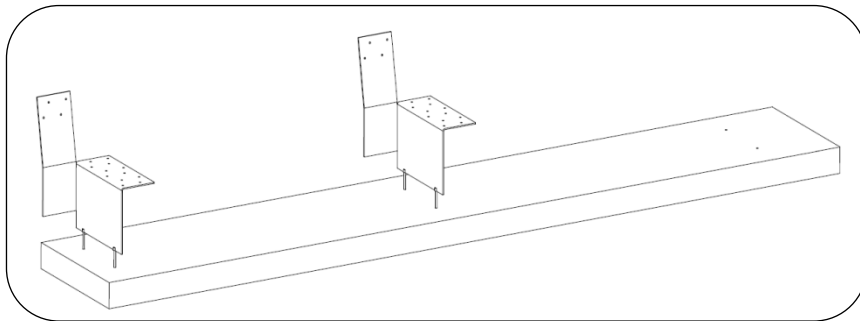
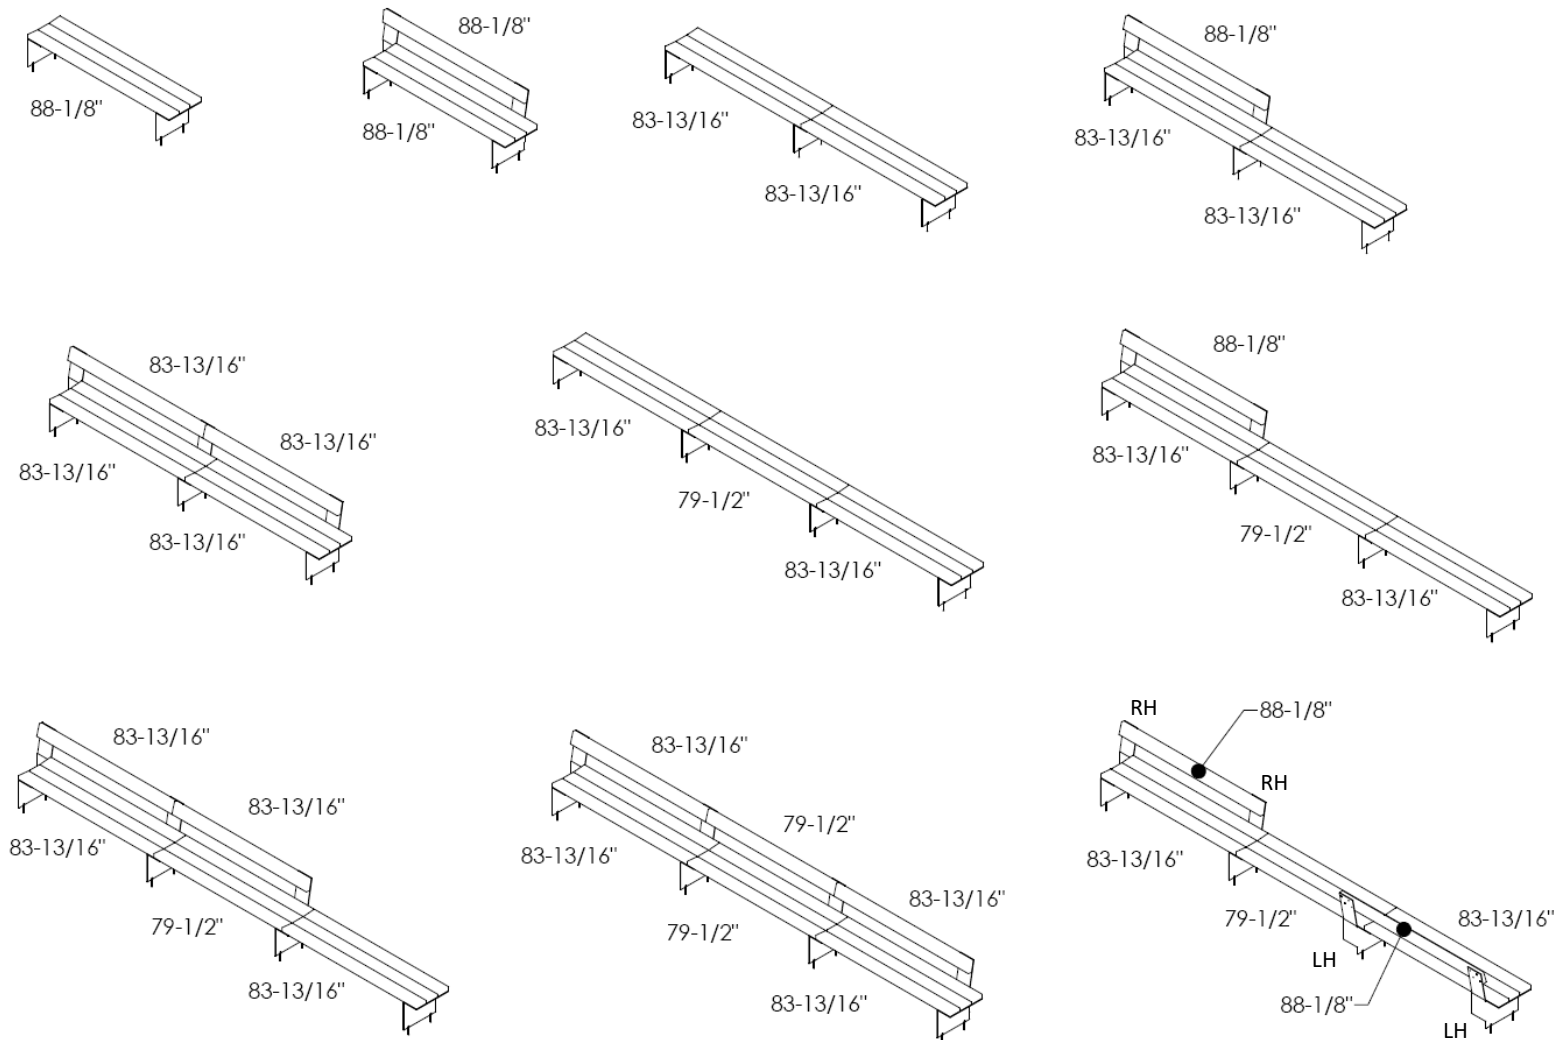

Fig. 4 – Step 1
Fig. 8 – Board length locations and support orientations. Not all configurations are shown.
**Note:** Interior seat boards are rectangular. Remaining boards are wedge-shaped. Seat boards and backrest boards may be different lengths. Refer to Fig. 8 for proper location of boards, depending on bench length. Backed supports are stamped “RH” for right-hand and “LH” for left-hand. Verify proper orientation before drilling holes.
3. Position first two supports so threaded rods drop into the drilled holes as shown in Fig. 4. Refer to Fig 8 for support placement for different bench styles.
2. Position first two supports as close to the drilled holes as possible without blocking access for dispensing adhesive. Refer to Fig 8 for support placement for different bench styles.